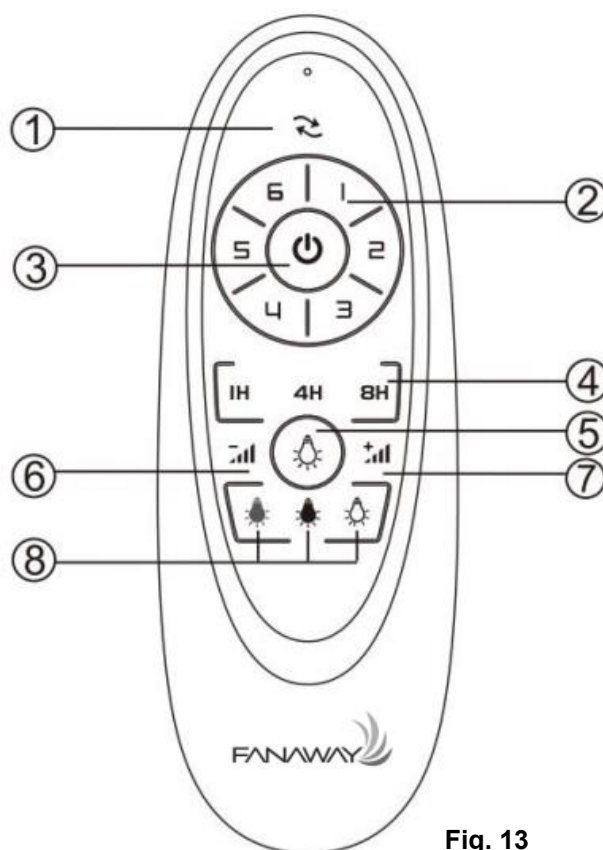

Fig. 13
3. Follow the guide below to operate the fan and learn the functions. (Fig.13)
① **Direction of the fan (reverse switch)**
② **Speed of the fan**